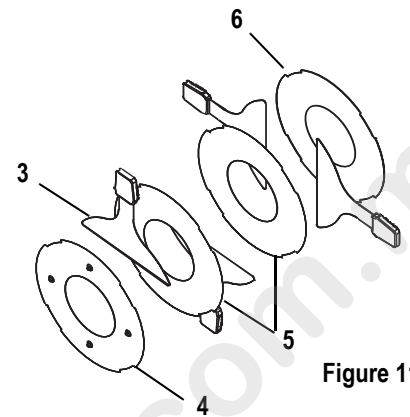

Figure 11
Step 3: With the bottom barrel casting (2) to your left, place one shutter blade (3) on top of dimpled divider plate (4) handle facing outward, up and down. (See Figure 11).